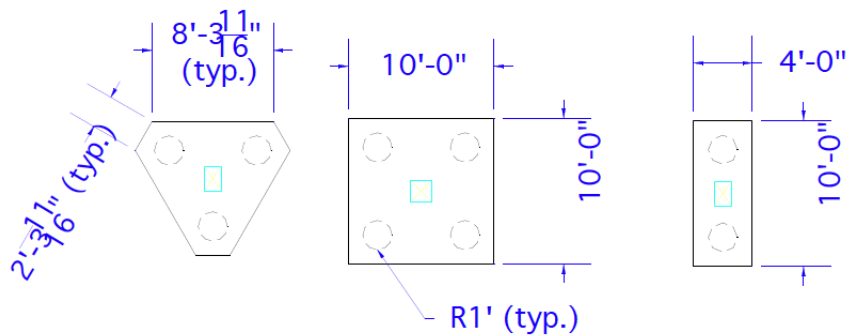
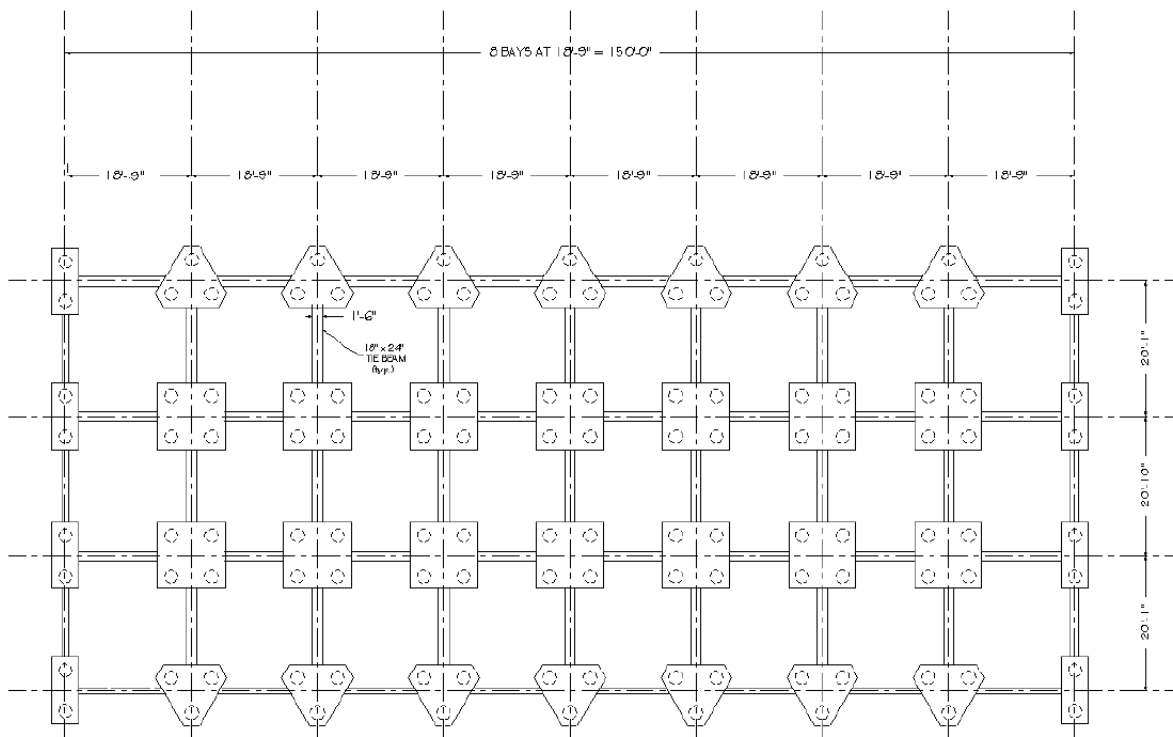

Figure 1: Typical foundation elements: Triangular, square and rectangular pile groups and pile caps
Figure 2: Foundation Plan
Download the files *foundationElements.dwg* and *pileGroup.dwg* from the class website. These files contain drawings of the foundation elements shown Figure 1 and you will use these drawings to create blocks for each of the foundation elements shown in Figure 2. *pileGroup.dwg* contains a drawing of the two-pile foundation element shown in Figure 2. Make sure that all of the objects are drawn on the 0 layer and that all of the objects have color, linetype, linewidth set to BYBLOCK.
4. Open the file *foundationElements.dwg*. This file contains drawings of the other two foundation elements shown in Figure 2. Add the two-pile foundation to the drawing using the insert block command. This time you will need to browse to find the file *twoPileGroup.dwg*. Use the explode command to explode the block and change the properties of the piles and pile cap so that each is assigned to the correct layer. Create a new block for the two-pile foundation as well as two new blocks for the other two foundation elements in the file. Save the revised file.
5. Open a new drawing in which you will draw the foundation plan shown in Figure 2. Name the drawing *lastname_lab_2_foundationPlan.dwg*. Insert the block library using the insert command. To do this you will need to browse to find the *foundationElements.dwg* file that contains the blocks, Open the file for use and click the Okay button to indicate that you want to insert the foundation elements. You will see all of the foundation elements in the drawing window and will need only to click the mouse to insert all of the elements. If you click on the drawing window, all of the foundation elements will be inserted. Instead of inserting all of them, type Esc. Now, all of the foundation elements blocks should be available for you to use in the new drawing. To confirm this, use the insert command and verify that all of the block names appear in the box following Name in the insert window.
6. Use the foundation elements to create the foundation plan drawing shown in Figure 2 Before you start your drawing, think about how you can use the array, multi-copy, offset, and mirror commands to draw the foundation layout using only a few commands.